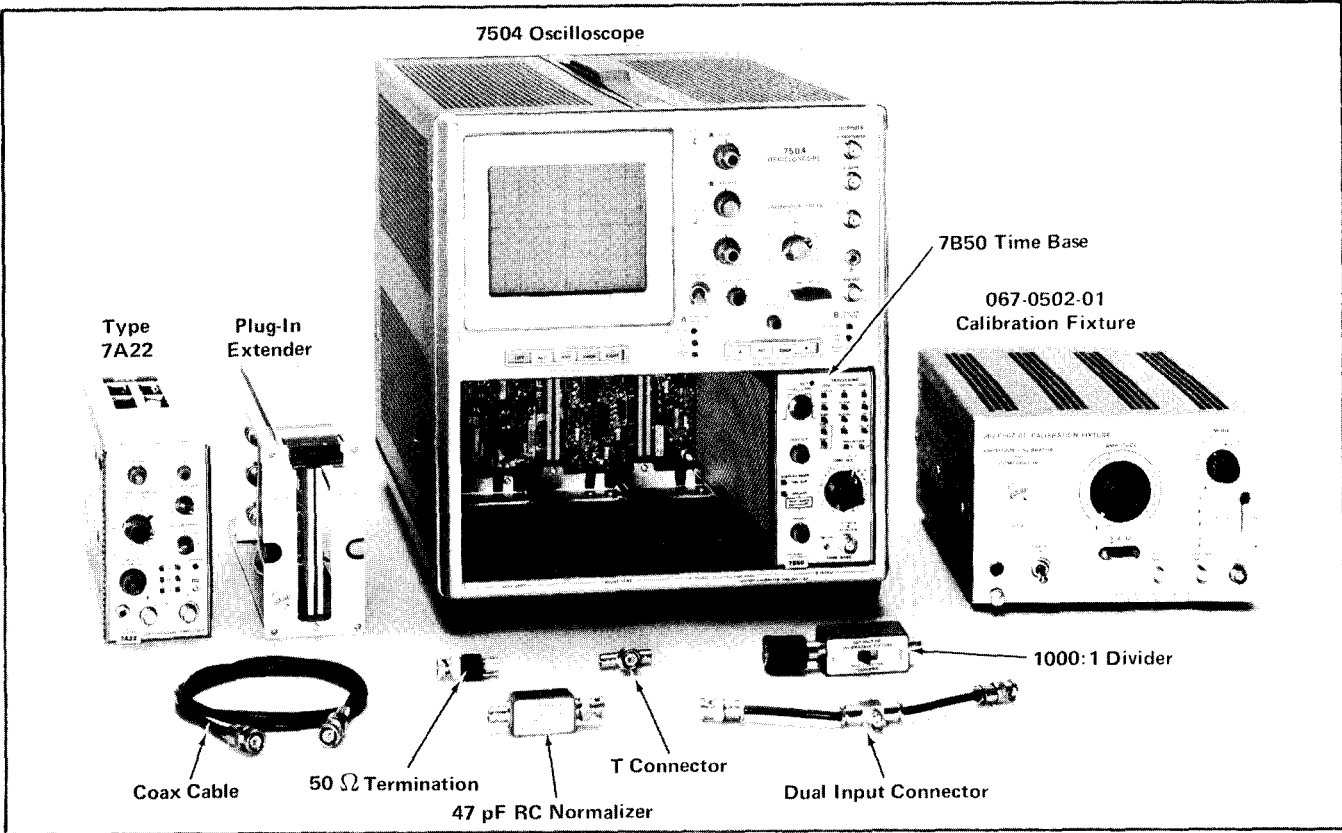

Fig. 5-2. Equipment required for steps 6 through 19..
- a. Test equipment setup is shown in Fig. 5-2.